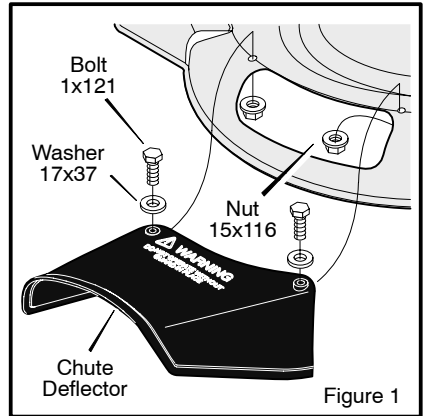

Figure 1
3. Attach the **chute deflector** to the mower housing with a **bolt**, **washer**, and **nut** (Figure 1). Make sure the fasteners are tight.